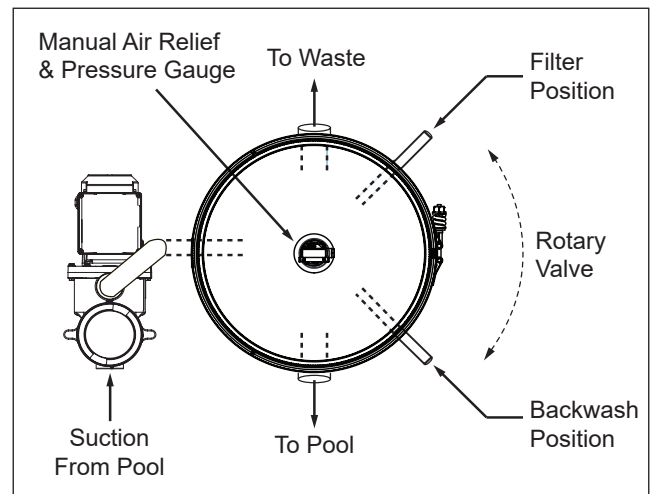

Figure 9: Rotary Valve Positions
5. Position the valve to BACKWASH. See **Figure 9**.
9. When water flows clear in the sight glass or discharge line, shut the pump off. This should take about three (3) minutes.